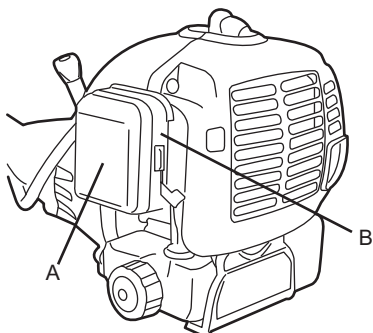

Fig.17a
- > Press the latch (B) and remove the cover (A) from the air filter case (9) (Figs. 17a, 17b).